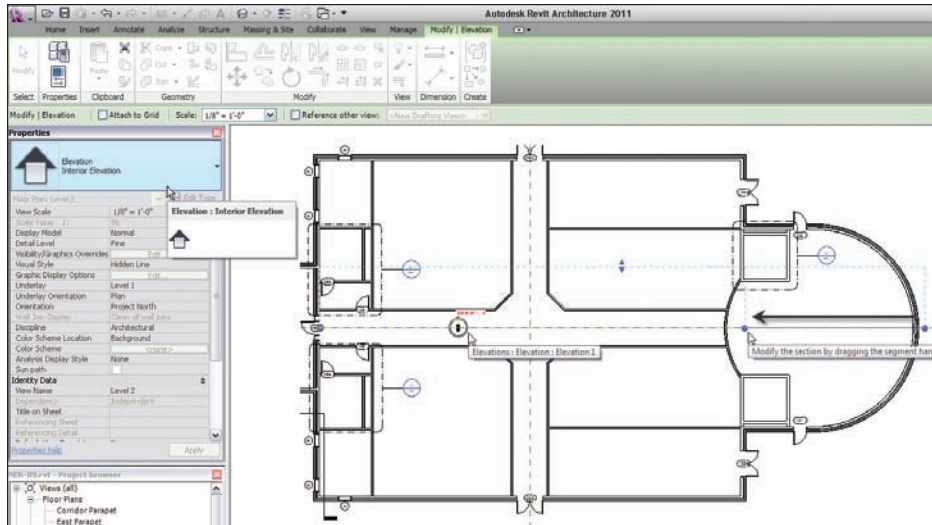

FIGURE 3.77 Adding an interior elevation and making the adjustments
3. In the Properties dialog box, choose Elevation : Interior Elevation, as shown at the top of Figure 3.77.
4. Hover your cursor in the corridor near a point shown in the middle of Figure 3.77. Notice that when you move your cursor up, the arrow flips up. When you move your pointer down, the arrow flips down.
5. Make sure the arrow in the elevation target is pointing up and pick a point along the horizontal corridor, as shown at the right of Figure 3.77, to place the elevation. Once it's placed, press Esc to terminate the command.
6. After you place the elevation, you will notice that the extents will be outside the building (in most cases this occurs; if it does not, you are good to go). Select the elevation again, and on the right side, pick the blue grip and drag the right extent to the point shown at the right in Figure 3.77.